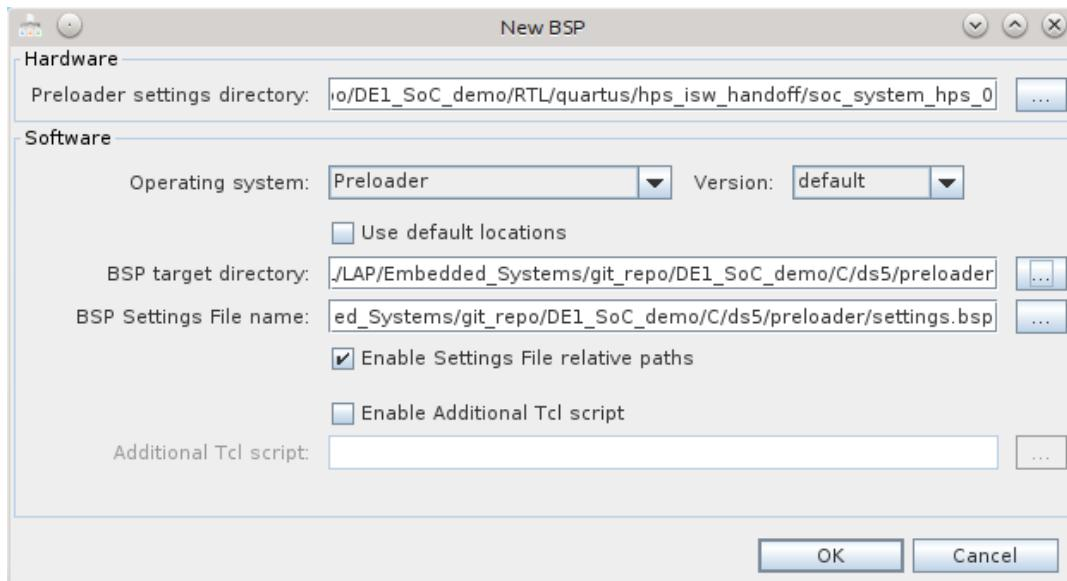

Figure 8-25. New BSP Dialog
- b. Disable the “Use default locations” checkbox and under the “BSP target directory”, select the “DE1\_SoC\_demo/C/ds5/preloader” directory. You should have something similar to Figure 8-25.